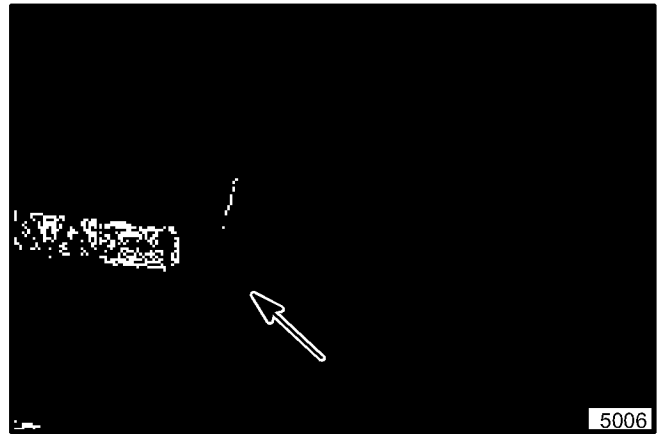

Figure 9. Lift Rod Connected To Lift Arm
16. Using a clevis pin, connect the clevis on the lift rod to the lift arm as shown in figure 9.